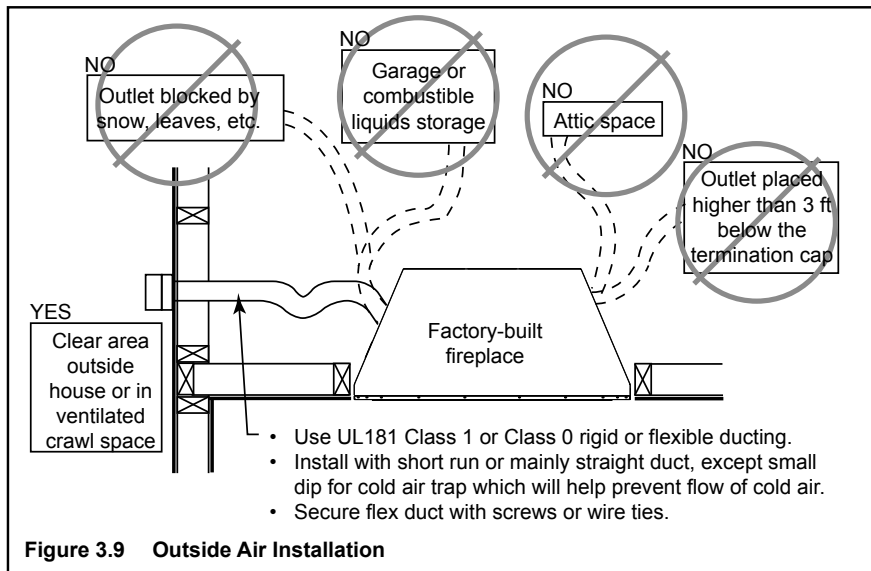

Figure 3.9 Outside Air Installation
- Locate the outside air inlet hood in a clear area, preferably into prevailing wind during the heating season. Refer to Figure 3.9.